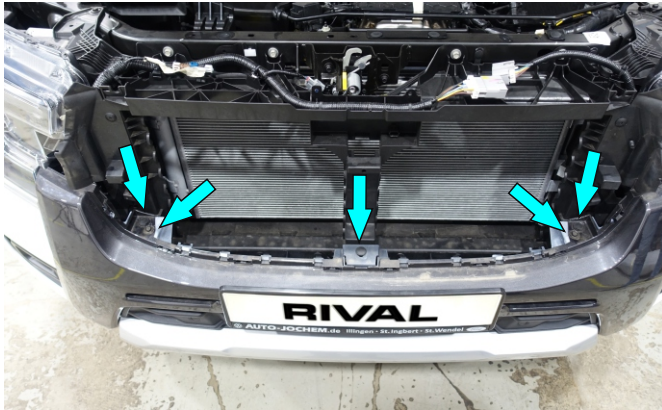

Fig.13
13. Remove plastic clips, unscrew bolts and remove factory bumper (fig.13).